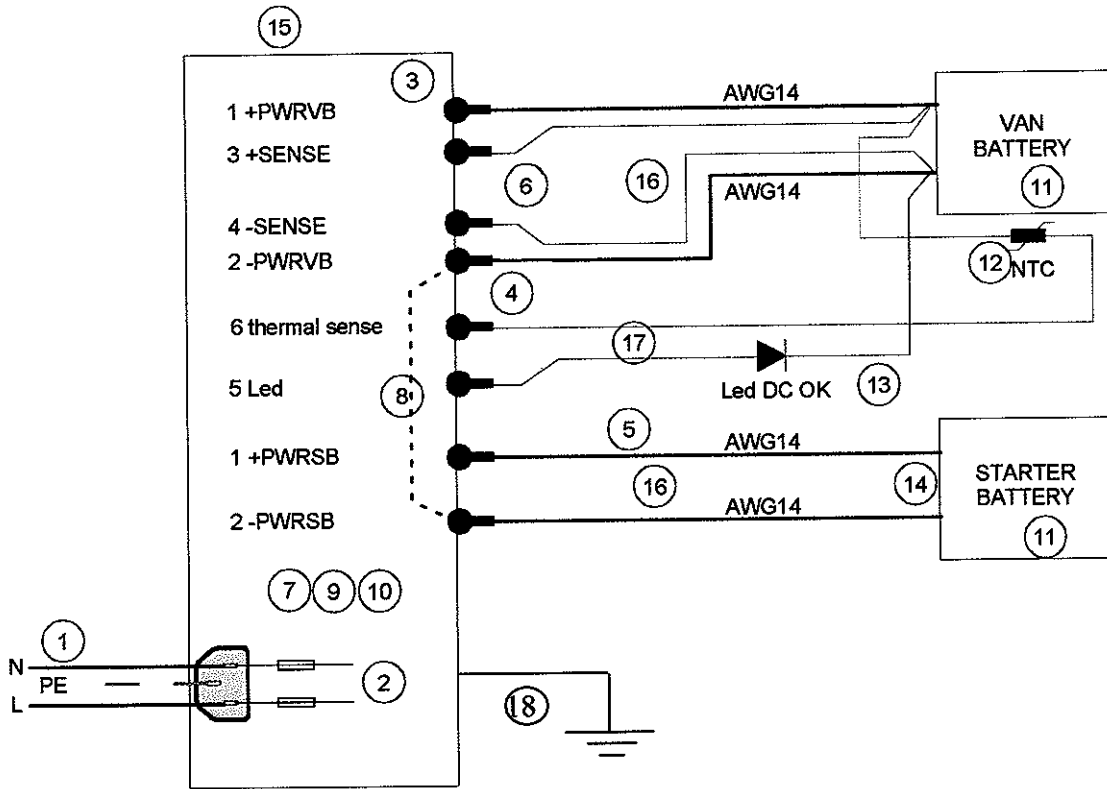

Fig. 3
3. Make all connections to the plugs as shown on fig. 3.
Note : on delivery : not connected for LOCAL sensing. The SENSE connections as shown in fig. 3 MUST be done by the user even if no option is used.
4. Connect the batteries cables to the plug as shown in fig. 3.
References to fig. 3